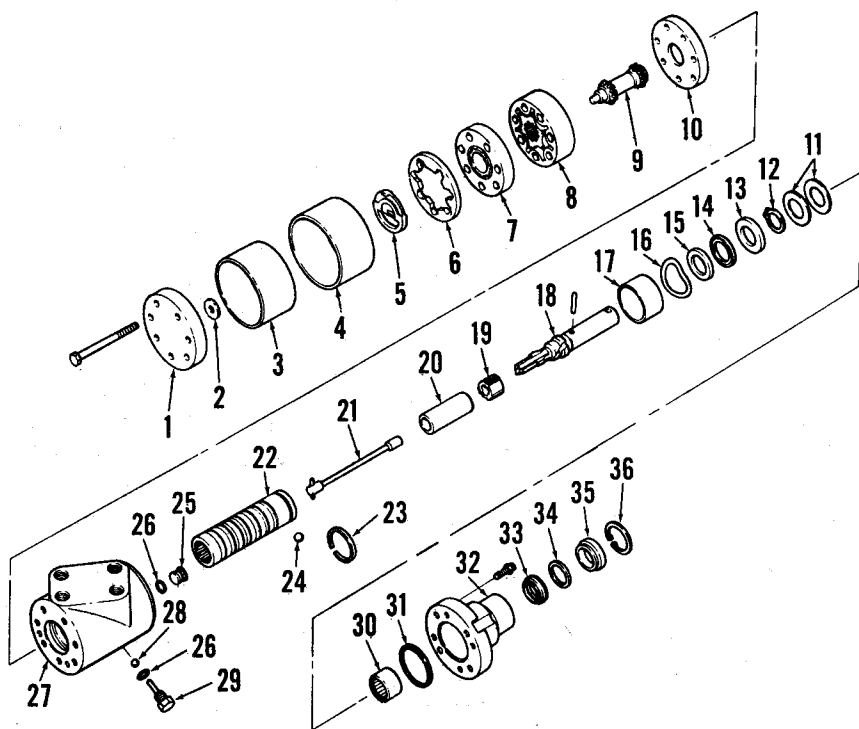
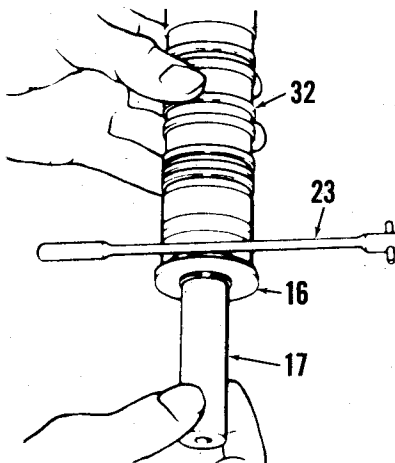

Fig. 28—Exploded view of Ross power steering motor used on late models.
Fig. 31—Use torsion bar as shown between thrust washer and end of spool, to establish neutral position. Refer to Fig. 28 for parts identification.
21. OVERHAUL ROSS STEERING MOTOR UNIT. Remove column and steering motor assembly as outlined in paragraph 19 and separate motor assembly from column as outlined in paragraph 20. To disassemble the removed motor, refer to Fig. 28 and proceed as follows: Install a fitting in one of the four ports in housing (27), then clamp fitting in a vise so that input shaft (18) is pointing downward. Remove cap screws and end cover (1).
Using a micrometer, measure thickness of the commutator ring (6—Fig. 28) and commutator (5). If commutator ring is 0.0015 inch or more thicker than commutator, renew the matched set.
Before reassembling, wash all parts in clean solvent and air dry. All parts, unless otherwise indicated, are installed dry. Install plug (25—Fig. 28) and new "O" ring in valve body. Install recirculating ball (28) and plug (29) with new "O" ring in valve body and tighten plug to a torque of 10-14 ft.-lbs. Clamp fitting
(installed in valve body port) in a vise so that top end of valve body is facing upward. Install thrust washer (15), thrust bearing (14), second thrust washer (13) and snap ring (12) on input shaft (18). If actuator ball retaining spring (23) was removed, install new retaining spring in spool (22). Place actuator ball (24) in its seat from the inside of valve spool (22). Insert input shaft into valve spool, engaging the helix and actuator ball with a counter-clockwise motion. Use the mid-section of torsion bar (21) as a gage between end of valve spool and thrust washer as shown in Fig. 31, to insure assembly in the neutral position of the ball on ramp. Place the assembly in a vertical position with end of input shaft resting on a bench. Insert drive ring (19—Fig. 28) into valve spool until drive ring is fully engaged on input shaft spline. Remove torsion bar gage. Install spacer (20) in
NOTE: If either input shaft (18—Fig. 28) or upper cover (32) or both have been renewed, the following procedure for shimming must be used.